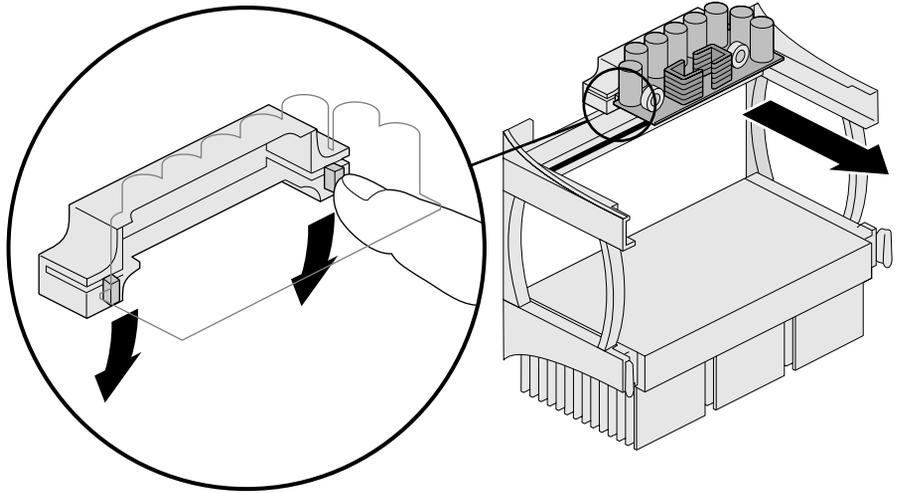

Figure 6-10 Removing the Processor Voltage Regulator
8. If you removed the secondary processor and installed a processor terminator card, also remove the voltage regulator, as shown in Figure 6-10.